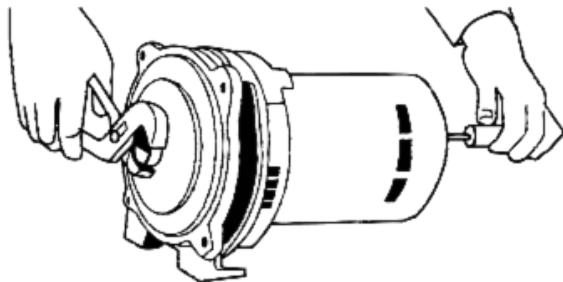

Figure 11: Remove Impeller
5. Remove impeller by holding pump shaft with water pump pliers and unscrewing impeller - left-hand counterclockwise facing the impeller to remove (Figure 11). Impeller can also be removed by prying out motor shaft end cap. Use a screwdriver in slot in end of shaft or a 7/16" open end wrench on shaft flats and hold to prevent shaft rotation. Unscrew impeller counterclockwise.
5. Hold pump shaft with pliers and unscrew impeller as shown (Figure 11).